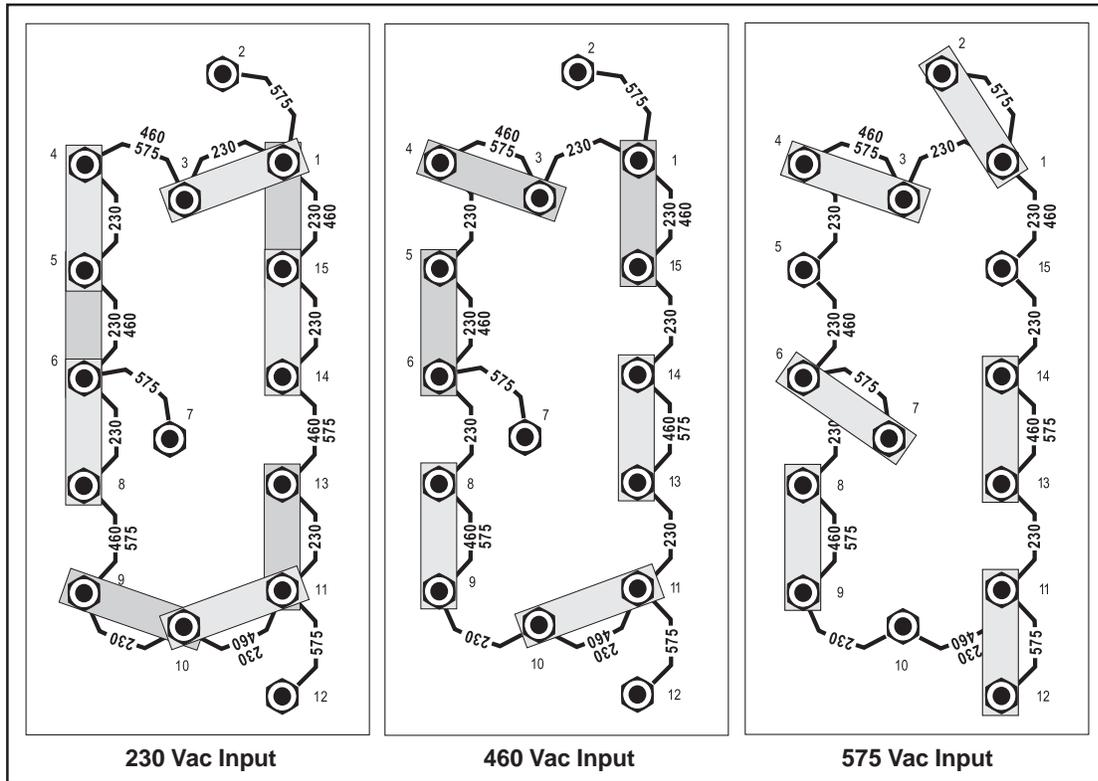

Figure 3-3. Input Terminal Board Configuration for 230/460/575 Model (factory supplied in the 575 configuration)
5. Figure 3-3 illustrates the input voltage terminal boards and the input voltage link connections. The particular voltages from which this power source may be operated are stated on the rating plate. The voltage links were factory set for highest voltage stated on the rating plate (575VAC). If the power source is to be operated on another stated input voltage, the links must be reset for that particular input voltage. Always verify the input voltage and check the link arrangement regardless of factory setting. The voltage links are set up by reconfiguring the copper link bars to the silk-screened voltage designations for the desired voltage.